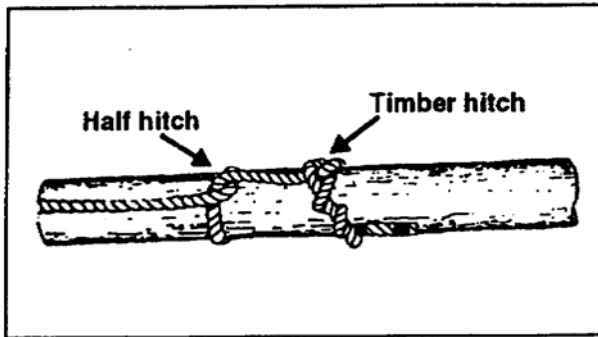

Figure 4-28. Timber hitch and half hitch
g. Timber Hitch and Half Hitch. A timber hitch and half hitch (Figure 4-28, page 4-22) are combined to hold heavy timber or poles when they are being lifted or dragged. A timber hitch used alone may become untied when the rope is slack or when a sudden strain is put on it.